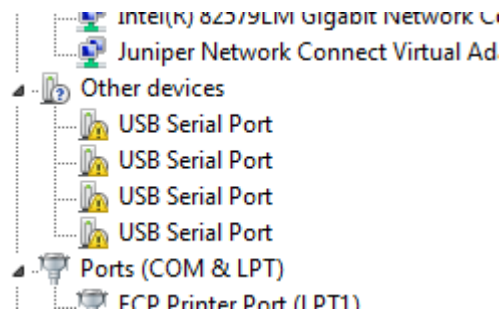

Figure 7. USB Serial Port
7. Repeat the same steps for the four instances of "USB Serial Port" that should have appeared as shown in Figure 7.